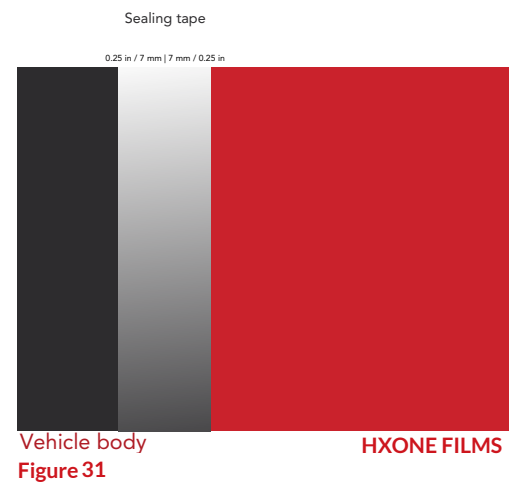

Figure 31
- › Apply the strip by overlapping it by approximately 7 mm (¼ in.) over the body work and 7 mm (¼ in.) over the HXONE film. (FIG. 31)